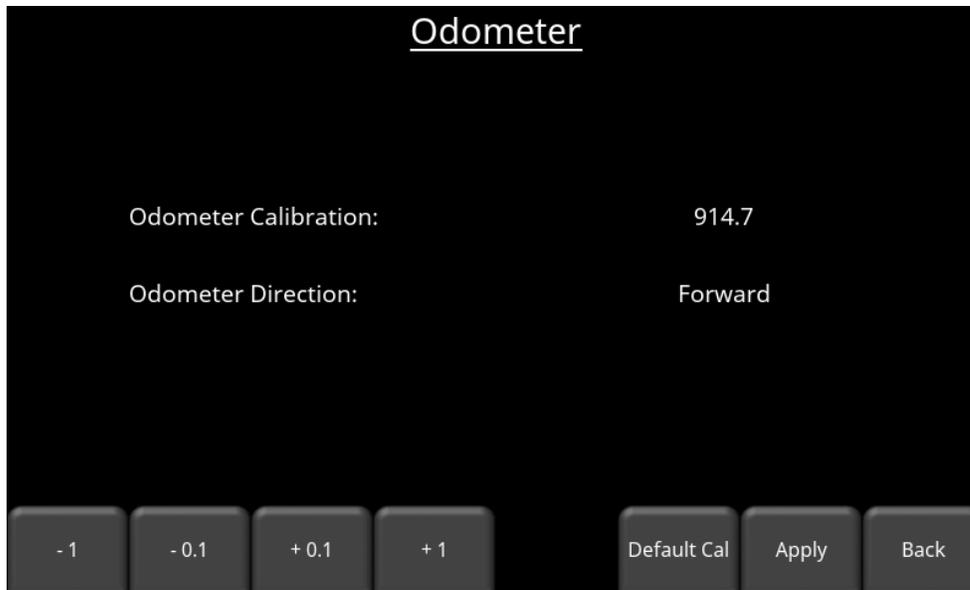

Figure 5-27: Manually setting odometer calibration value
- **Manual** – Pressing this button changes the bottom menu, allowing you to manually insert a calibration value. This can be done using the buttons along the bottom of the screen to increase or decrease the calibration value (Figure 5-27).